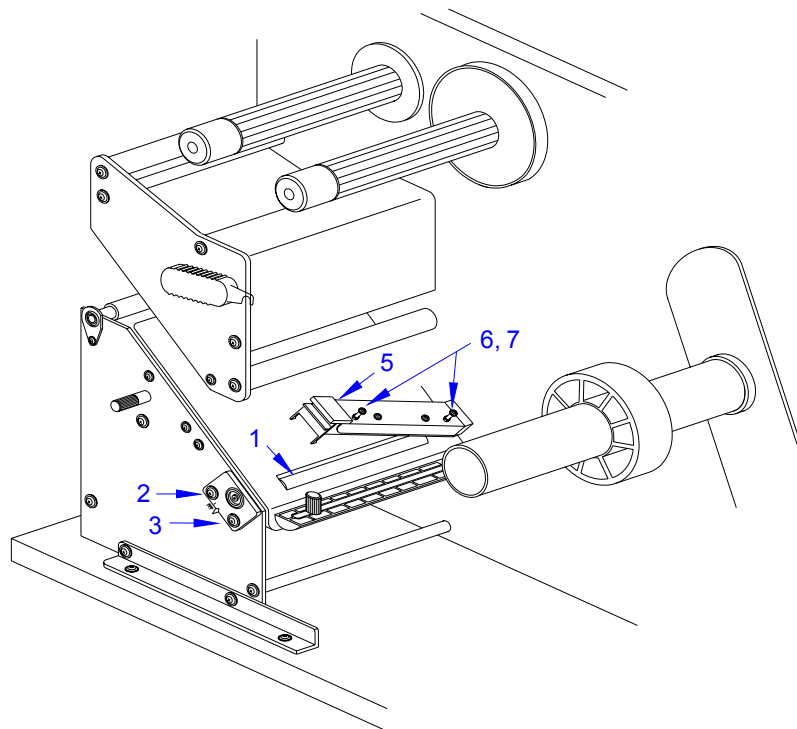

Figure 8-5, Feed Roller Adjustment
- 8 Adjust lower roller (1, Figure 8-5) by slightly loosening two screws (2) securing roller bracket (3) and adjusting as deemed necessary while observing scale (4).